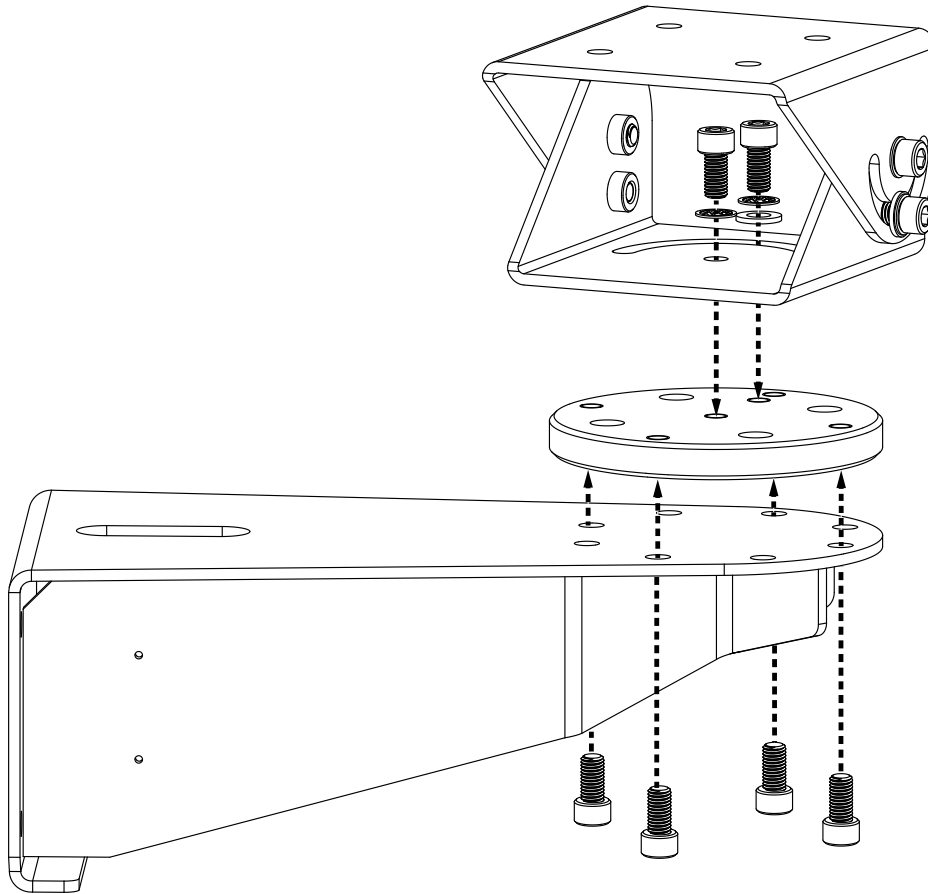
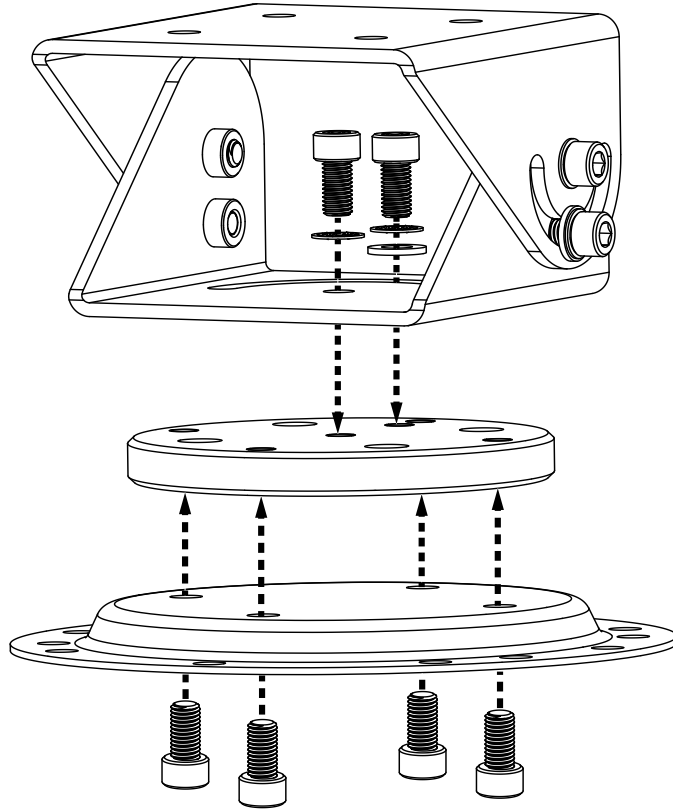

Figure 5.
Figure 6.
1. Attach the baseplate to the mounting surface with M8 flat head screws of suitable length. Alternately, attach the baseplate to the Wall Mount Adapter (WXM200) (Figure 5) or Pedestal Plate (PXM200) (Figure 6) using the supplied M10x1.5x16 mm socket cap head bolts. Tighten the bolts to 34 to 37 Nm.